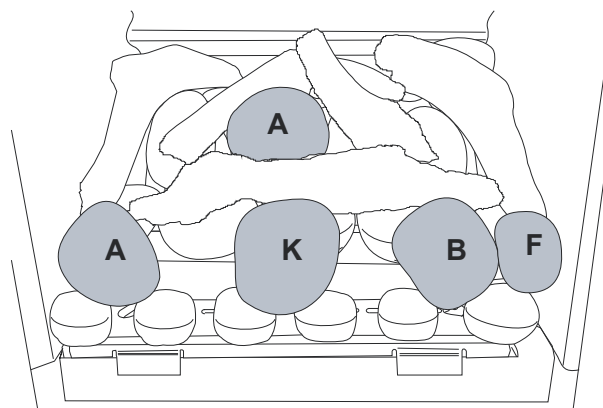
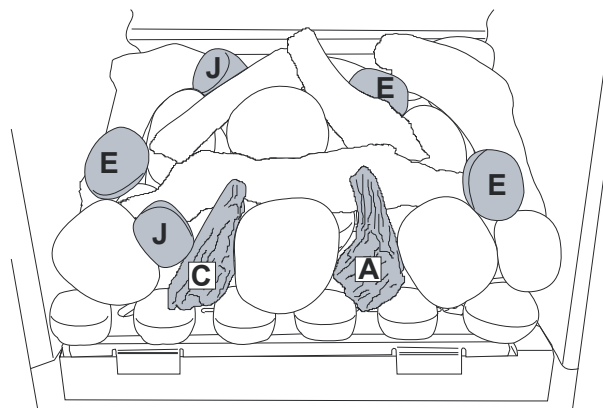

Figure 37
Figure 38
7. Continue laying the pebbles and the driftwood pieces as shown in **Figure 37** and **Figure 38**.